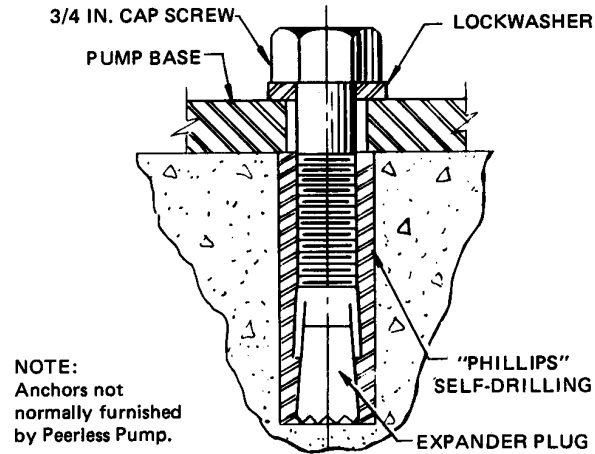

Figure 1. Anchor Bolt Detail (Expansion Type)
**FLOOR MOUNTING:** A raised concrete foundation may be provided for convenience of elevation but it is not required if the floor is level. Provide expansion type bolts in the floor (see Figure 1) so the unit can be properly